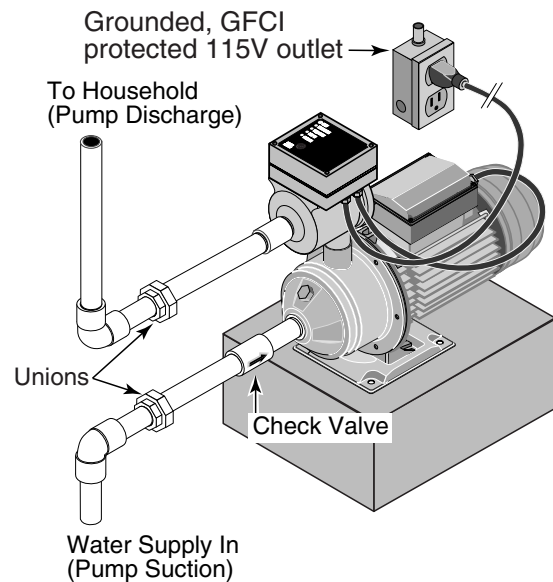

Figure 2: Typical household booster installation. Purchase plumbing fittings separately. Consult code for relief valve/pressure regulator requirements.
pump flow at 100 psi (689 kPa) (See Figure 2). If local code requires installation of a pressure relief valve capable of handling the full pump flow at a pressure less than 100 psi (689 kPa), follow the code requirements. Run the relief valve discharge to a floor drain or other drain that will give adequate runoff.
9. Install piping from elbows to pump including a union in each line and a check valve in the pump suction line. The arrow on the check valve must point to the pump suction (see Figure 2). If not already in the plumbing system, install a pressure relief valve in the pump discharge line capable of passing the full pump flow at 100 psi (689 kPa). If local code requires installation of a pressure relief valve capable of handling the full pump flow at a pressure less than 100 psi (689 kPa), follow the code requirements. A low pressure safety cutoff switch should also be installed in the discharge line, and may be required by your local codes.
⚠ WARNING Hazardous voltage. Risk of dangerous or fatal electric shock. Plug the pump into a 115 Volt, 60 Cycle, Ground Fault Circuit Interrupter (GFCI) protected grounded outlet only. The pump is equipped with a 3-wire grounded cord and plug. Do not modify or remove the plug. Make sure the outlet meets the National Electric Code or the Canadian Electrical Code, as applicable. To avoid dangerous electrical shock hazard, keep the cord dry at all times. See Figure 2.